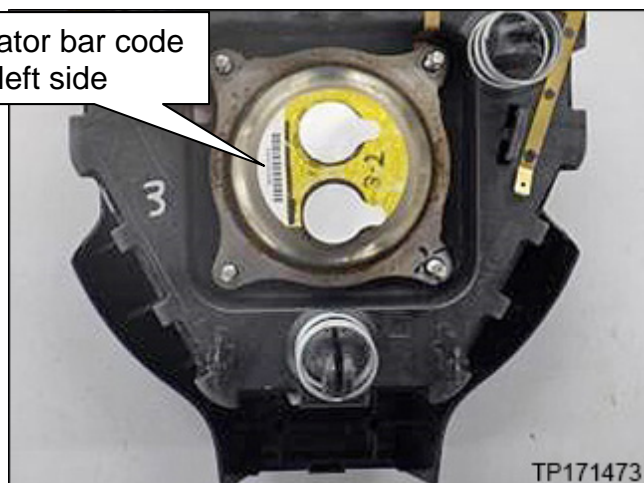

Figure 22
21. Install the new inflator from the Parts Information into the module as shown in Figure 22.